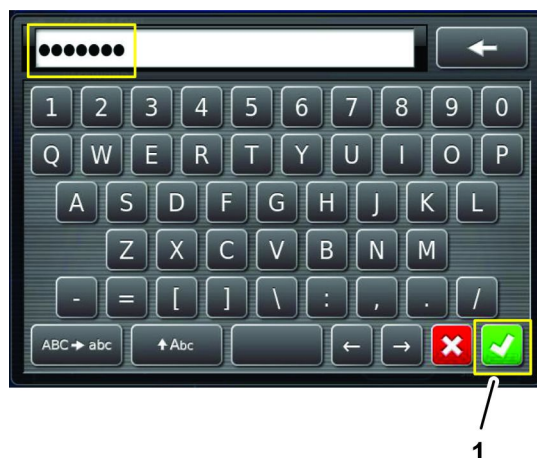

Figure 248
6. Use the on-screen keyboard to enter the password that you received in step 1, and press the confirm icon (Figure 248).